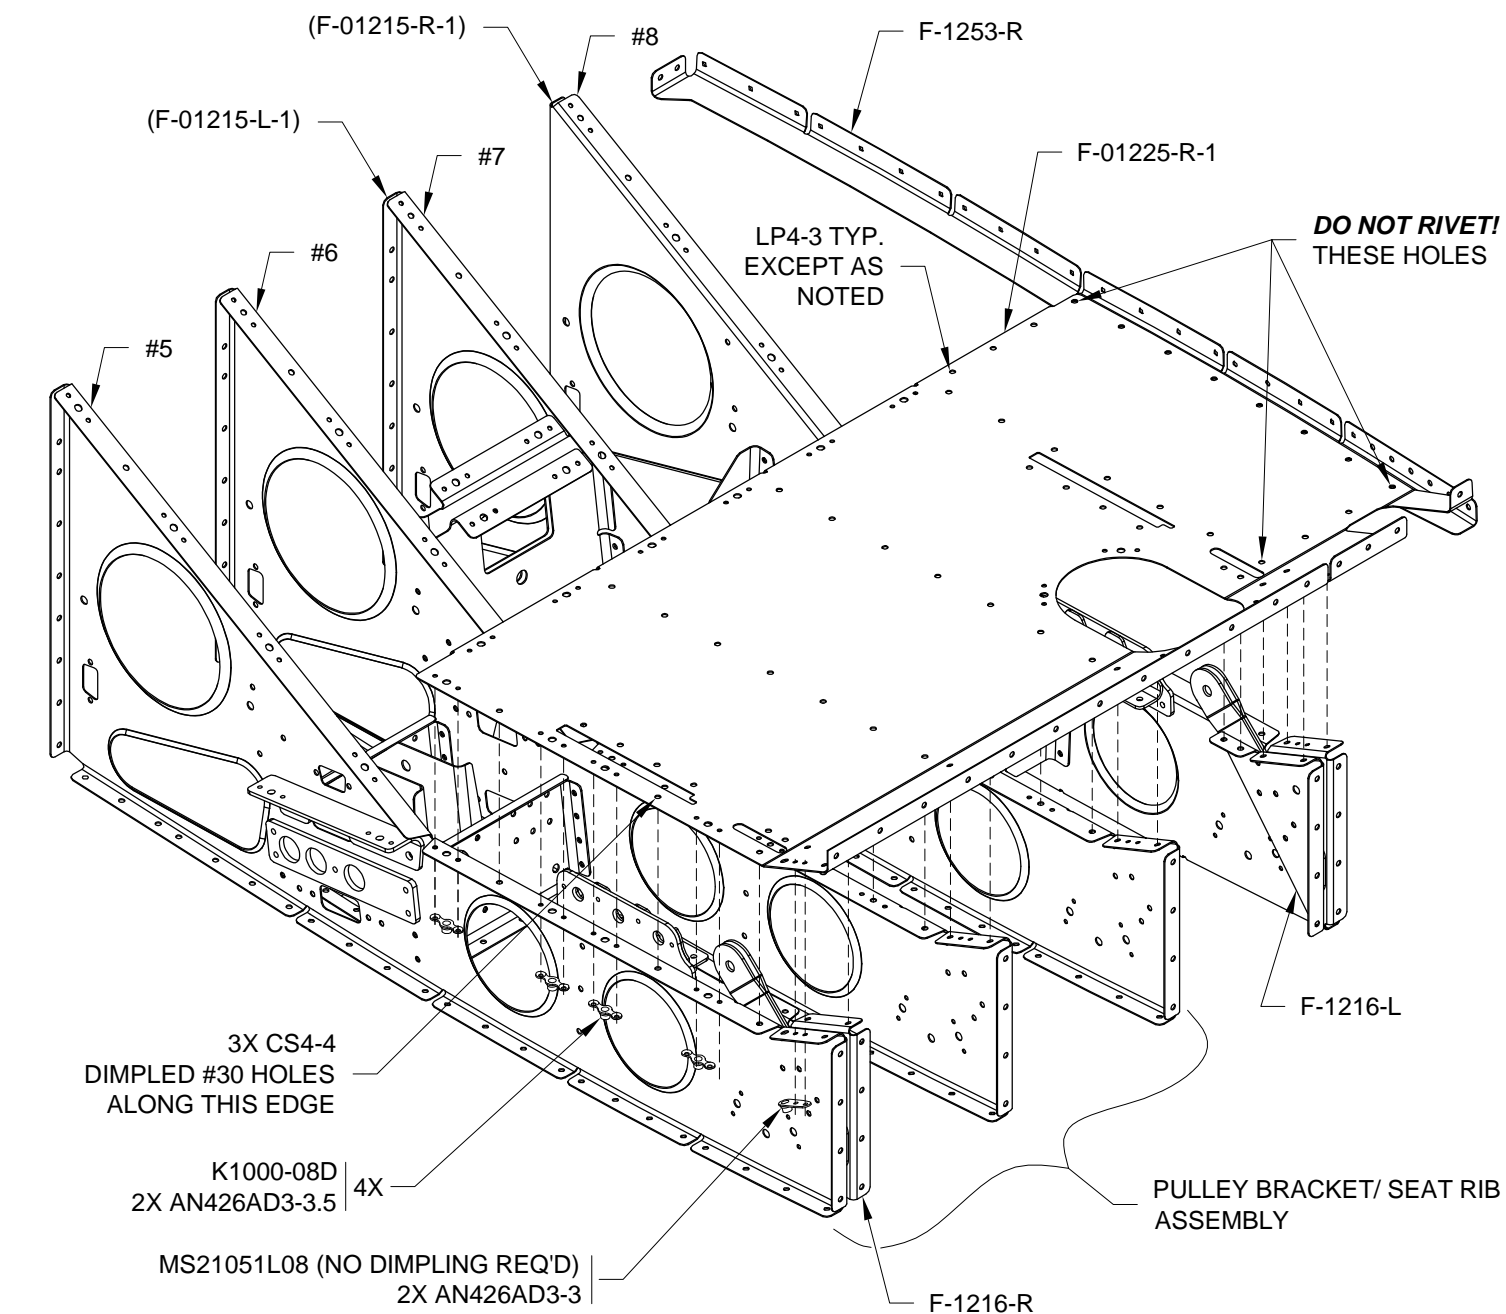

FIGURE 1: RIVETING RIGHT SEAT FLOOR
Step 2: Rivet nutplates shown in Figure 1 to the Pulley Bracket/ Seat Rib Assembly and to F-01225-R-1 using the rivets called out. Again, temporarily install an 8-32 screw in the MS21051L08 nutplate to prevent misalignment while riveting.
Step 3: Using the rivets called out in Figure 1 rivet F-1253-R (shown installed) to the bottom of F-01225-R-1. Do not install a rivet in the aft most and forward most hole as indicated.